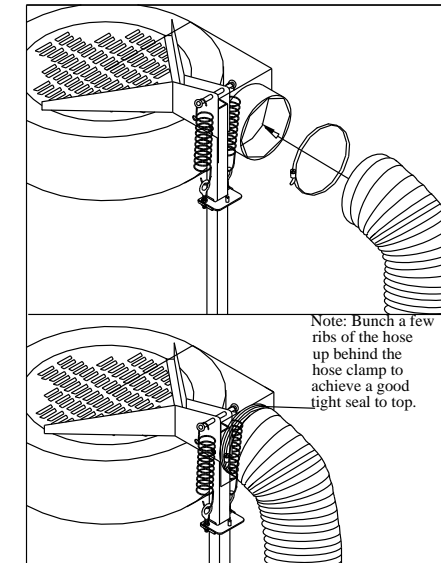

Fig. 6
6. Slide intake nozzle (20) thru intake opening with lip on the inside. (Fig. 6) Slip one end of 6" x 60" hose (22) over nozzle and secure with 6" band clamp (21).